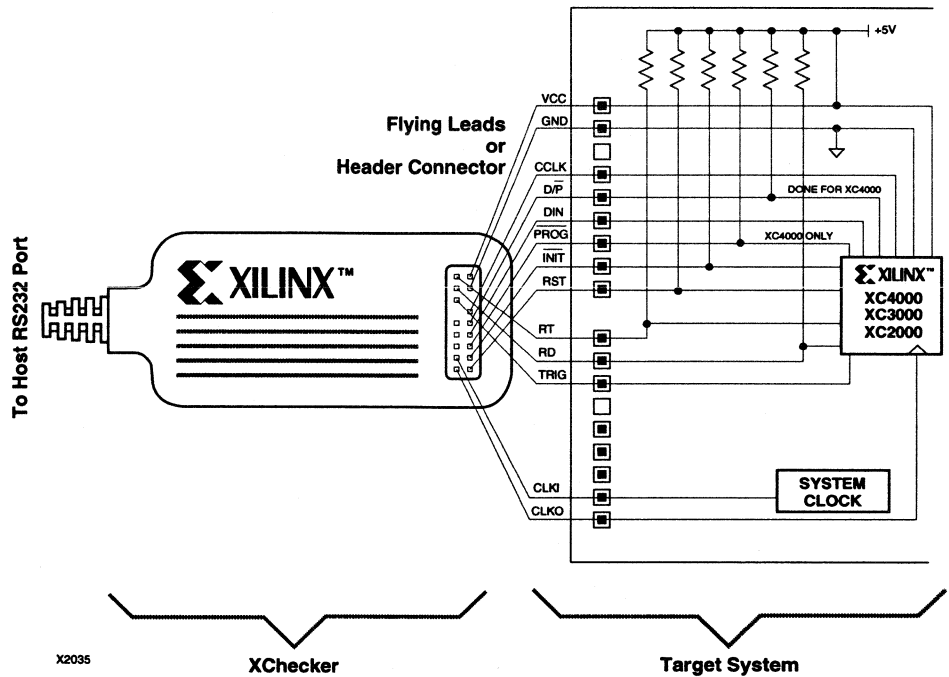

Figure 5-10 XChecker Cable Connections for Synchronous Probing
Connect XChecker to the target LCA, as shown in Figure 5-10. This allows you to download, probe, and verify your design.
- Be sure to connect XChecker CLKO and CLKI pins, as shown in Figure 5-10, from the clock source to the XChecker CLKI and from the CLKO to your target LCA. This allows XChecker to control the target LCA system clock. If you are using the sample design, consult Table 5-2 (or the file XROMS.RPT) and connect a jumper between the signals FROM_CLKO and TO_CLKI to the XChecker pins, CLKO and CLKI, respectively.